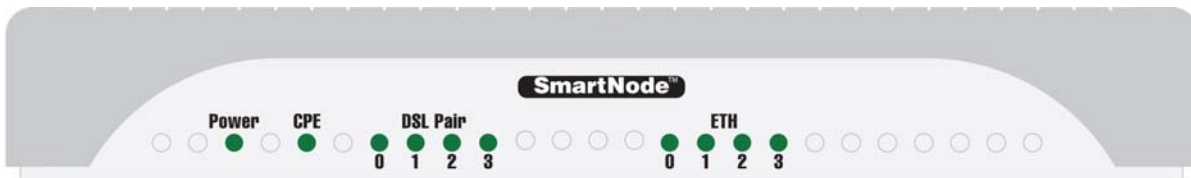

Figure 9. SmartNode 5300 Power LED
4. Verify that the green *Power* LED is lit (see figure 9).